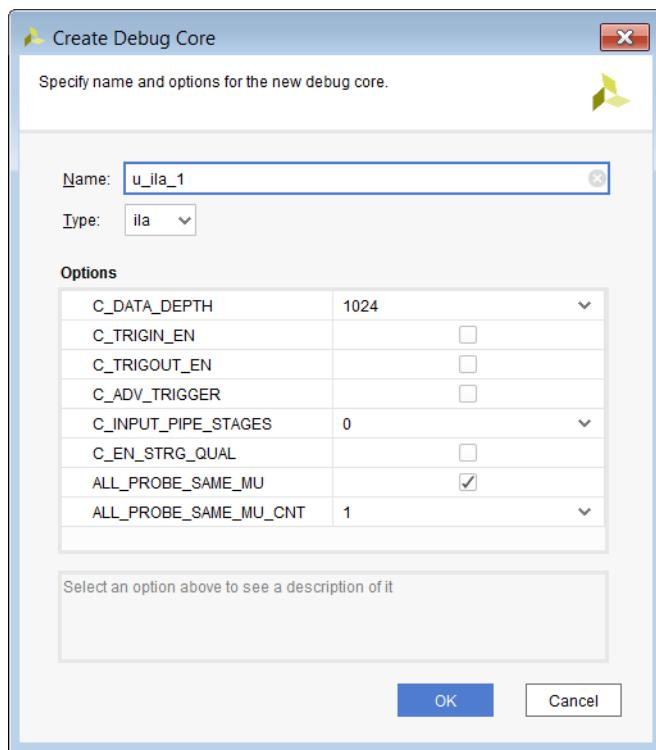

Figure 10-6: Creating a New Debug Port
2. Click **Create Debug Port** to open the dialog shown in Figure 10-6.